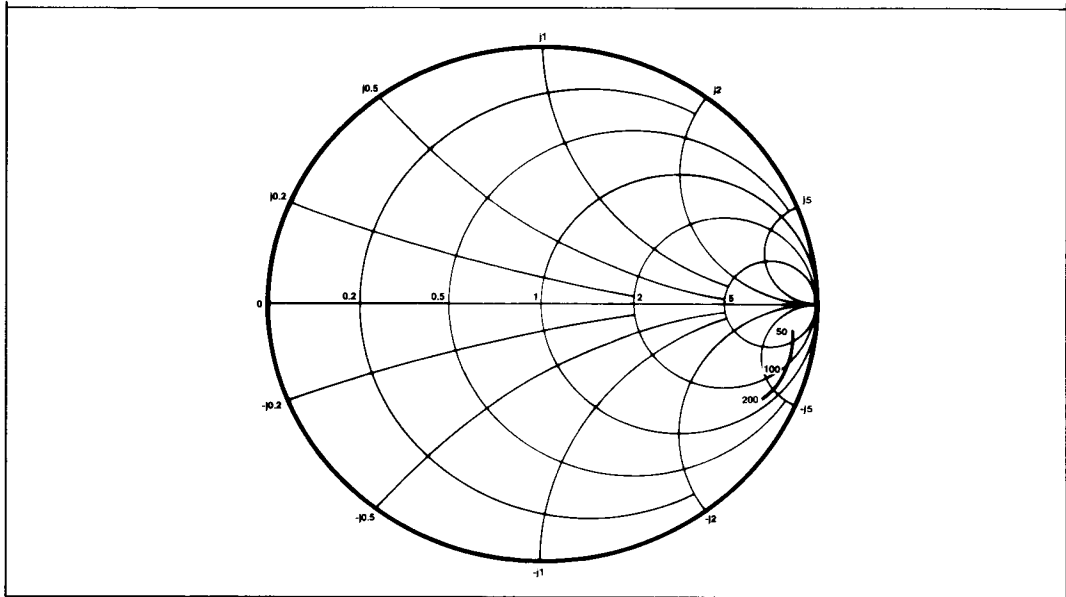

Fig.4 Typical input impedance. Test conditions: supply voltage 5.0V, ambient temperature 25° C. frequencies in MHz, impedances normalised to 50 ohms.
- Input impedance is a function of frequency. See Fig. 4.